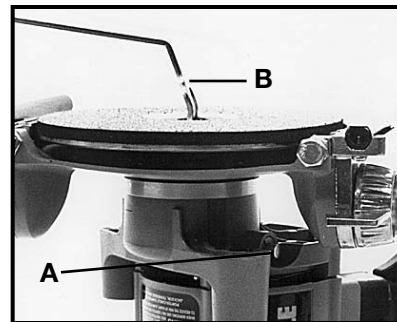

Fig. 8
5. Select the Porter-Cable Tungsten Carbide Disc with grit size best suited to the job. Center the disc on the back-up pad (Fig. 8) and thread the disc retaining nut onto the spindle. Depress the spindle lock pin (A) Fig. 8, and rotate pad **BY HAND** until lock engages and stops pad rotation. Continue to depress spindle lock pin while using the spanner wrench (B) Fig. 8 to firmly tighten disc retaining nut.